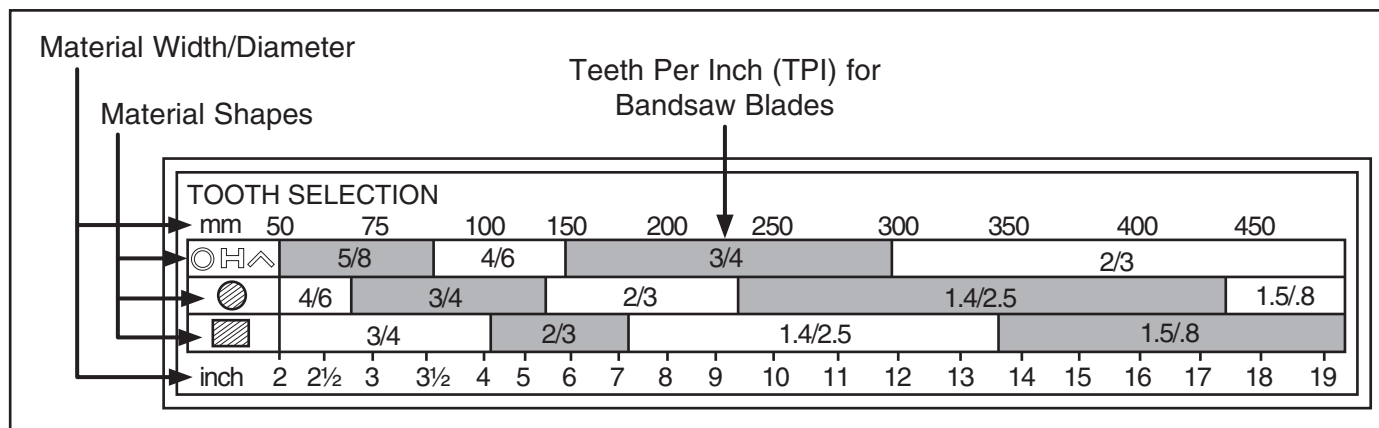

Figure 33. General guidelines for blade selection and speed chart.
2. Refer to "Material Width/Diameter" row of blade selection chart in **Figure 33**, and read across to find workpiece thickness you need to cut.